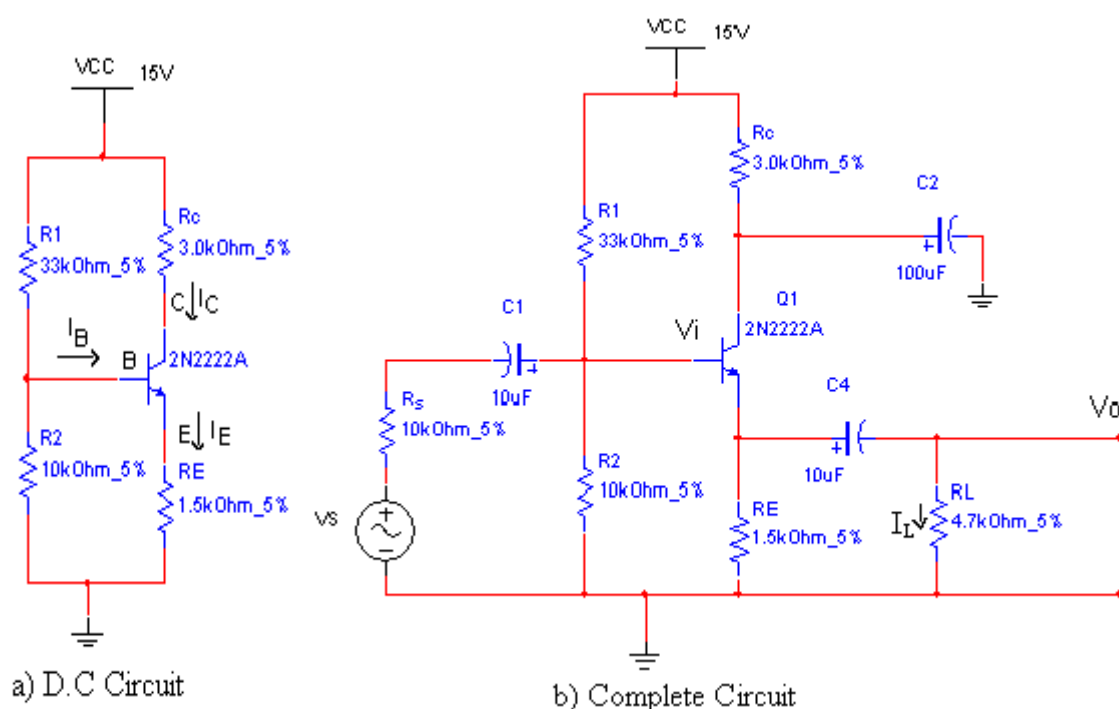

Fig 10.1 BJT Common Collector Amplifier.
2. Calculate the DC operating point of the amplifier circuit in Fig 10.1(a)
4. From the h – parameters of the transistor calculate for the circuit in Fig.10.1 (b) :
2. Connect the circuit in Fig 10.1(a)
4. Connect the circuit in Fig 10.1(b)